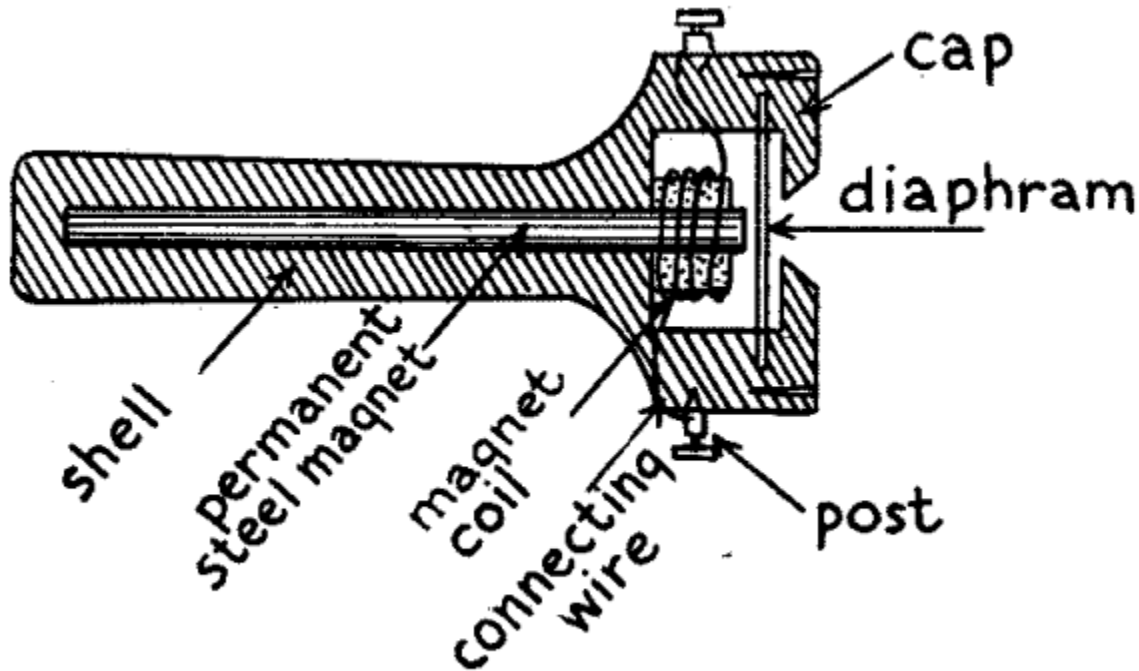

FIG. 62.—Cross-section of Bell Telephone Receiver.
How a Bell Telephone Receiver Is Made.--An ordinary telephone receiver consists of three chief parts and these are: (1) a hard-rubber, or composition, shell and cap, (2) a permanent steel bar magnet on one end of which is wound a coil of fine insulated copper wire, and (3) a soft iron disk, or *diaphragm*, all of which are shown in the cross-section in *Fig. 62*. The bar magnet is securely fixed inside of the handle so that the outside end comes to within about 1/32 of an inch of the diaphragm when this is laid on top of the shell and the cap is screwed on.
How the Headphones Work.--As you will see from the cross-sections in *Figs. 62 and 63* there is no connection, electrical or mechanical, between the diaphragm and the other parts of the receiver. Now when either feeble oscillations, which have been rectified by a detector, or small currents from a *B* battery, flow through the magnet coils the permanent steel magnet is energized to a greater extent than when no current is flowing through it. This added magnetic energy makes the magnet attract the diaphragm more than it would do by its own force. If, on the other hand, the current is cut off the pull of the magnet is lessened and as its attraction for the diaphragm is decreased the latter springs back to its original position. When varying currents flow through the coils the diaphragm vibrates accordingly and sends out sound waves.